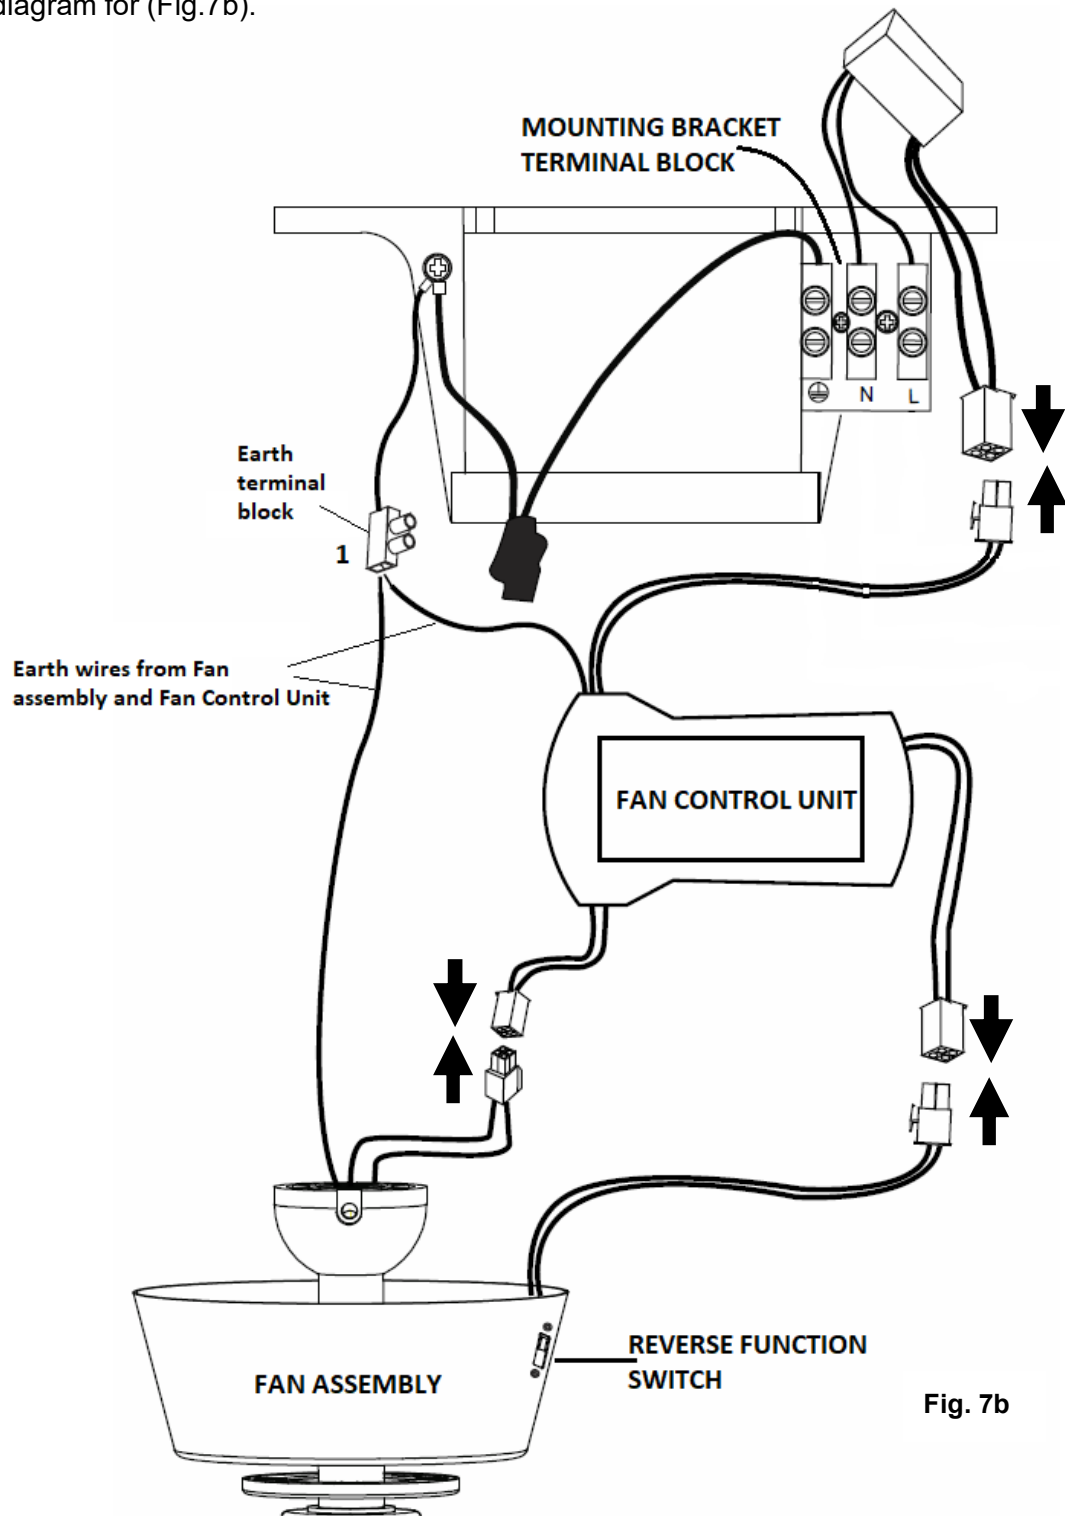

Fig. 7b
Ensure the motor earth wire is connected to the single earthing terminal block “1” in the diagram below. (Fig. 7b)
From mounting bracket to fan control unit and motor (Fig. 7b)
8. Ensure the fan assembly earth wire is connected to the single earthing terminal block “1” in the diagram for (Fig.7b). Ensure the fan control unit earth wire is connected to the single earthing terminal block “1” in the diagram for (Fig.7b).